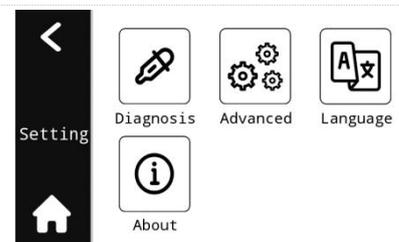

Figure 9a
- 1) Tap  on the home page to enter this page. (Figure 9a)